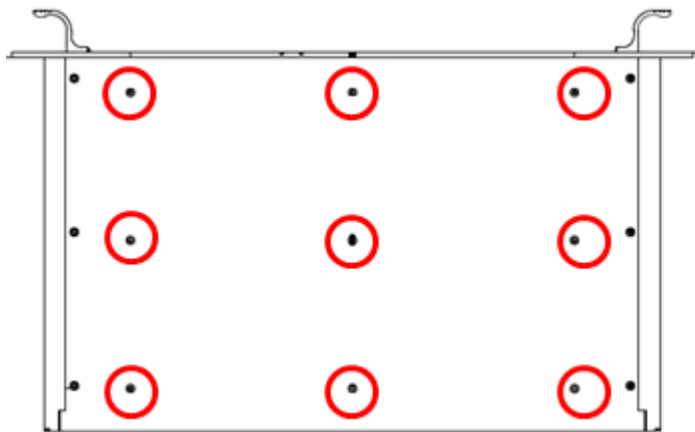

Figure 3-16. 9 Bottom Panel Screws
4. Referring to Figure 3-16, remove the 9 center screws on the bottom panel while at the same time securing the SPA PCB so it doesn't drop when the final screws are removed.